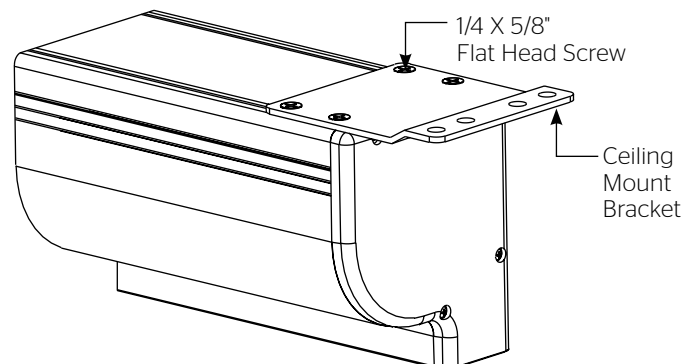

Figure 3
- Using a #2 Phillips screwdriver, loosen the four 1/4"x 5/8" screws holding the ceiling flush mount brackets (Figure 3).
- Tighten the four 1/4"x 5/8" screws holding the ceiling flush mount brackets (Figure 3).
2. Remove the ceiling flush mount brackets using a #2 Phillips screwdriver (Figure 3). Retain four 1/4"x 5/8" screws.